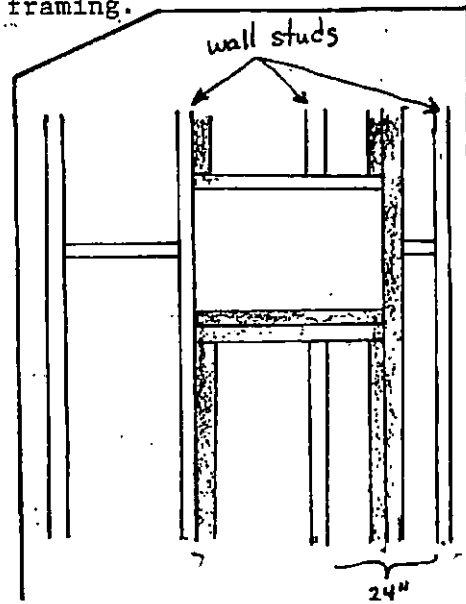

FIGURE 68
1. The 2 x 4 framing for the window shouldn't interrupt the 24" center wall studs. Take the measurements of your window sash and build your frame 1/4" wider and 1/4" larger than the window. See Fig. 68.